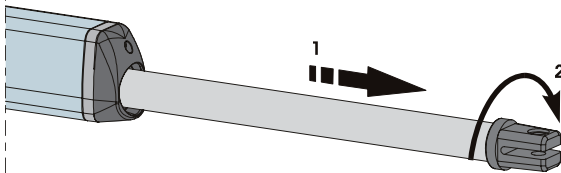

Fig. 9
- 4) Completely extend the rod till it reaches the limit stop, fig.9 ref.1.
- 6) Turn the rod clockwise half a revolution / a revolution, Fig.9 ref.2